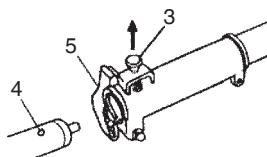

Fig. 2
- Make sure the lock pin (3) fits in the location hole (4) of tube and that the tube will not come off. (Fig. 2)
- Tighten the knob nut (5) securely. (Fig. 2)